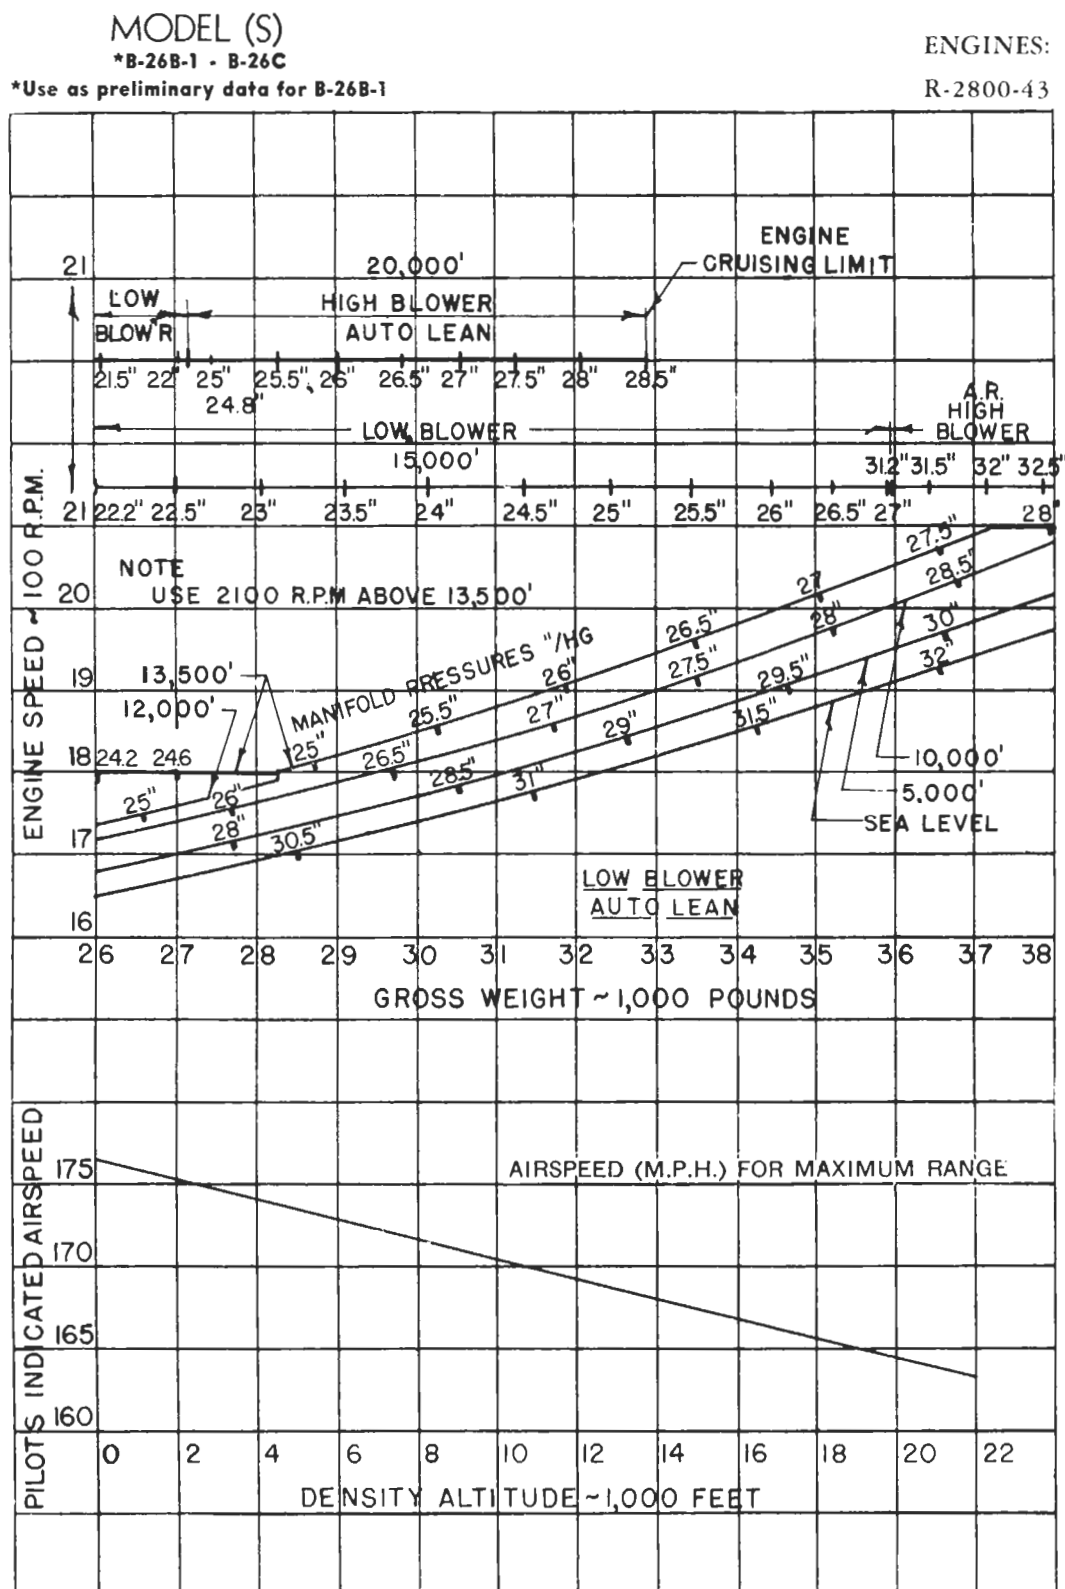

Figure 91 —
5. MAXIMUM RANGE CHART. (See figure 91.)